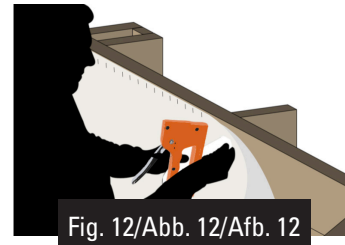

Fig. 12/Abb. 12/Afb. 12
- Use one staple every 20 cm. (figure 12)